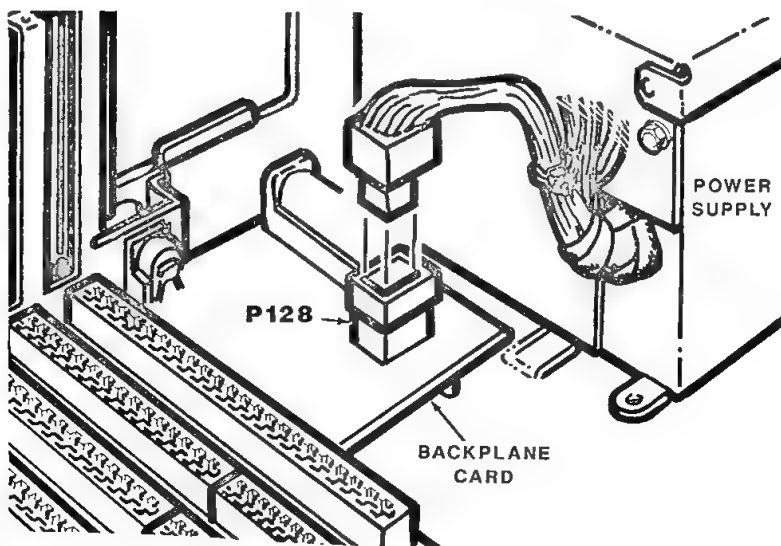

Figure 3-4. Power Supply Connection
Refer to Figures 3-4 through 3-7 and perform the following procedure:
4. Disconnect power supply connector P1 from backplane connector P128, as shown in Figure 3-4.
Refer to Figures 3-4, 3-5, 3-8, and 3-9 to perform the following procedure:
3. Disconnect power supply connector P1 from backplane connector P128, as shown in Figure 3-4.